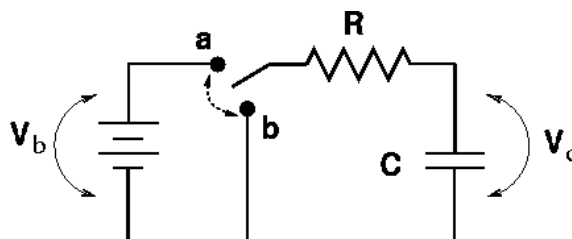

Figure 5.4
1. Charge a capacitor using a power supply and a resistance as shown Figure 5.4.
2. After the capacitor is fully charged, discharge the capacitor through the resistance  $R$  only (Remove the power supply) as shown in Figure 5.4.